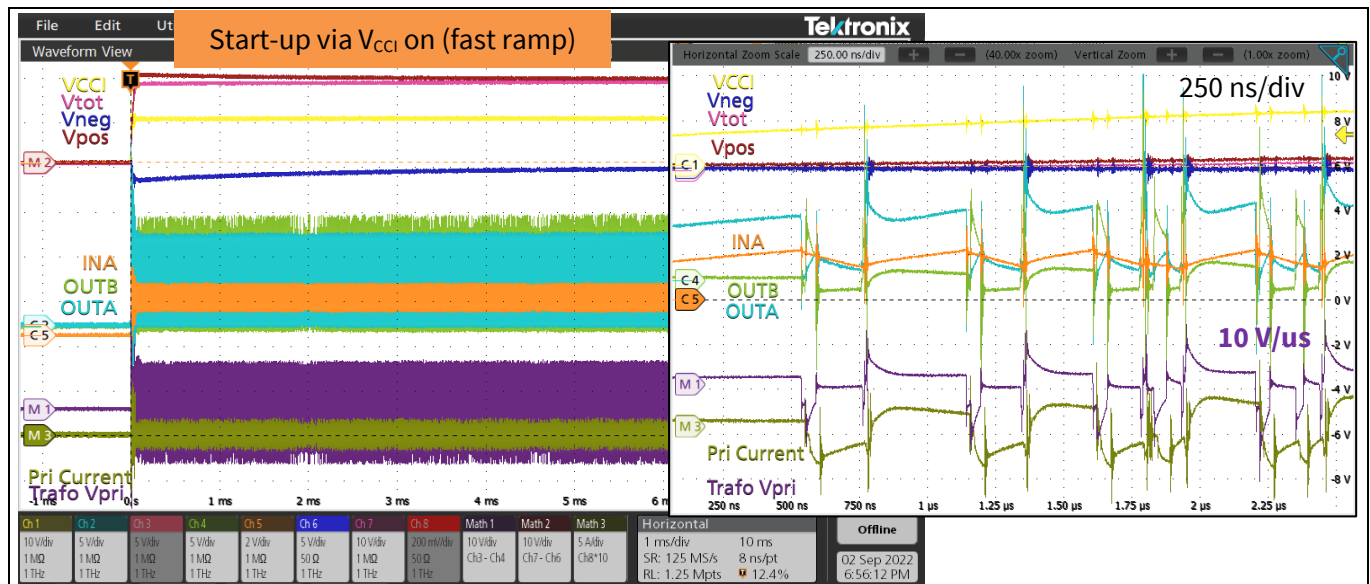
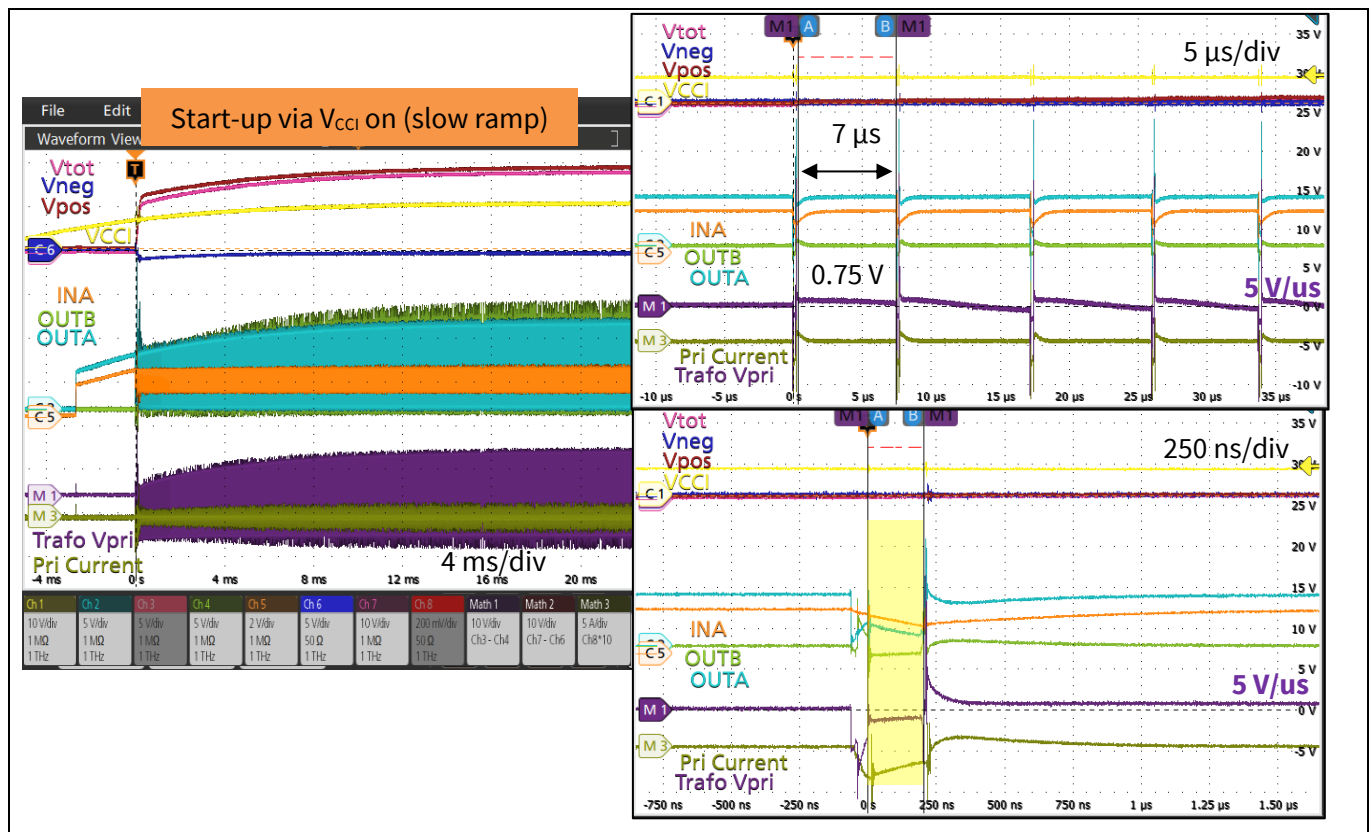

Figure 21 Fast start-up of auxiliary supply alone in Conf. A with a 270 Ω load
Figure 22 Slow start-up of auxiliary supply alone in Conf. A with a 270 Ω load
The power supply is designed to work at nominal V_{CC1} ; however, when the input supply is ramping up and down (e.g., start-up, shutdown) the auxiliary power supply could work in an unwanted condition. The power supply must be able to leave this operation mode safely. **Figure 21** and **Figure 22** show an auxiliary supply start-up with, respectively, a fast and slow V_{CC1} ramp in high-load condition (270 Ω load resistor, 150 mA input current); high load is the most critical case to look at.
a. Reverse current conditions are caused by the high current (green, waveform M3) flowing in the auxiliary during start-up. Reverse current can be avoided by a limiting resistor (R3); however, in this design R3 is set to 0 Ω for best voltage regulation and efficiency thanks to the high reverse current robustness of EiceDRIVER™ 2EDN7533B. On this board, the worst reverse current condition is highlighted with the yellow frame in the detail views of **Figure 21** and **Figure 22**; here a reverse current of around 3 A on average flows into the driver nMOS body diode of channel B (OUTB is at -0.8 V) for 150 ns and 202 ns respectively in the fast and slow start-up case. This current is only limited by the parasitics and by the gate driver's output stage resistances. The reverse current is caused by an unwanted toggling of INB, induced by the high primary current. During the discharging phase of INA, OUTB (green, waveform C4) is supposed to be high and OUTA (blue, waveform C2) is supposed to be low; however, the high primary current causes a significant voltage drop on the driver output resistance $R_{DS(on),SNKA}$ that brings OUTA (and then INB) above the V_{INLH} threshold (see part highlighted in yellow). Consequently, OUTB is pulled down and this causes the toggling and the induced reverse current.
b. In case of an input supply (V_{CC1}) rising slowly, the auxiliary start-up operates for long time with a supply voltage lower than the nominal value; therefore, it works at a very low switching frequency, as seen in the upper detail view in **Figure 22**. This can become critical for the transformer flux balance; however, in this design the stress on the transformer stays well below the 6 V/ μ s saturation limit.